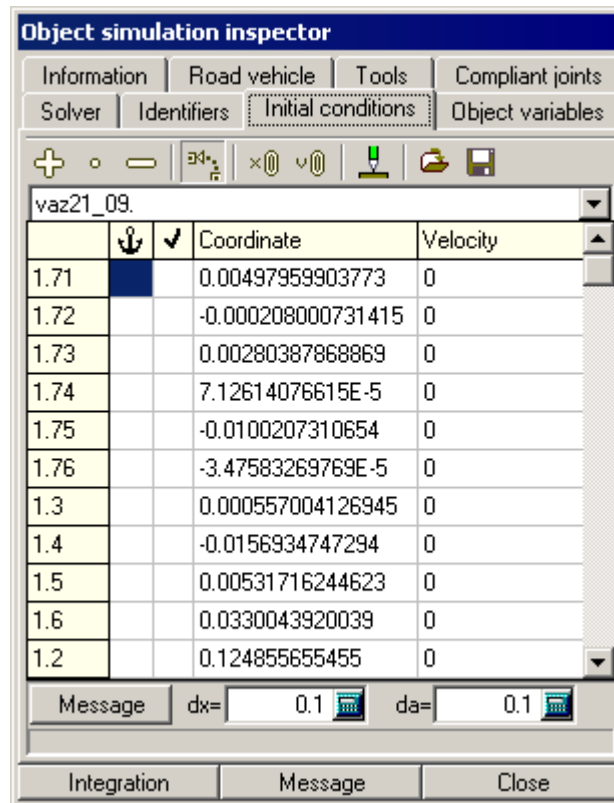

Figure 1.2. Initial conditions for the mode
10. Set velocities to zero by clicking  button, see Fig. 1.2.